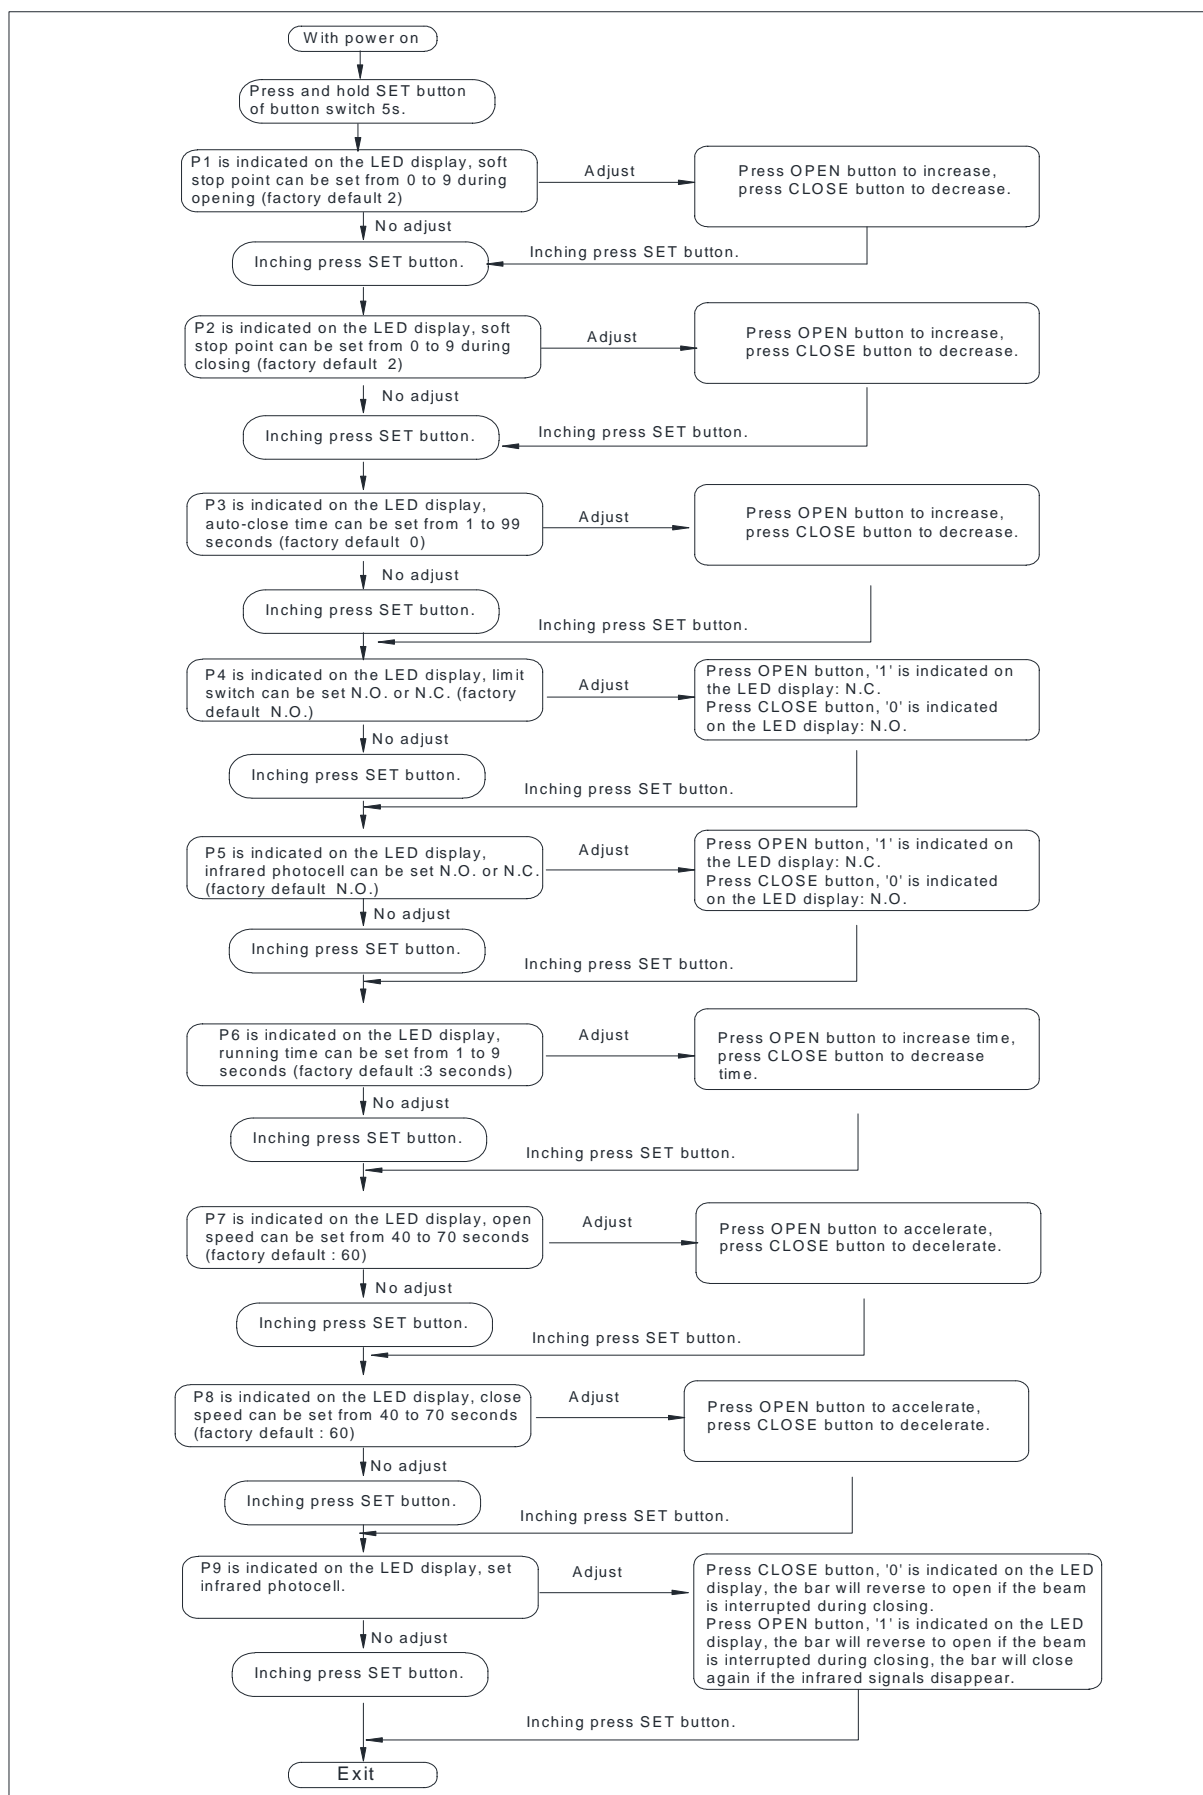

Fig.8 Programming
Infrared photocell (N.O.) It also can be set to N.C. See Fig.8 P5
- It also can be set to N.C. see Fig.8.
Motor	Adjust the motor, see Fig.8 P1/P2, P7/P8